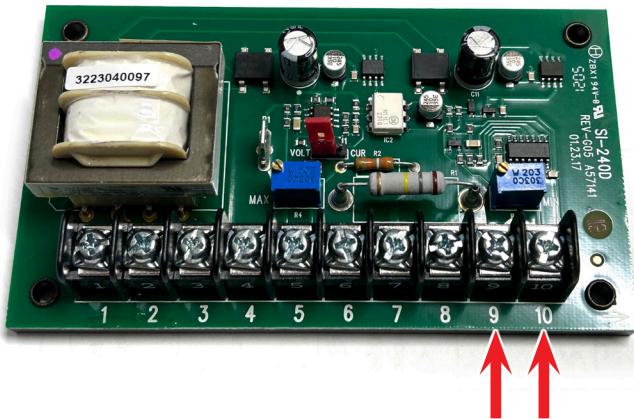

FIGURE 1
3. Connect your multimeter cables to the wire connectors, #9 and #10, on the isolator board (see Figure 1).